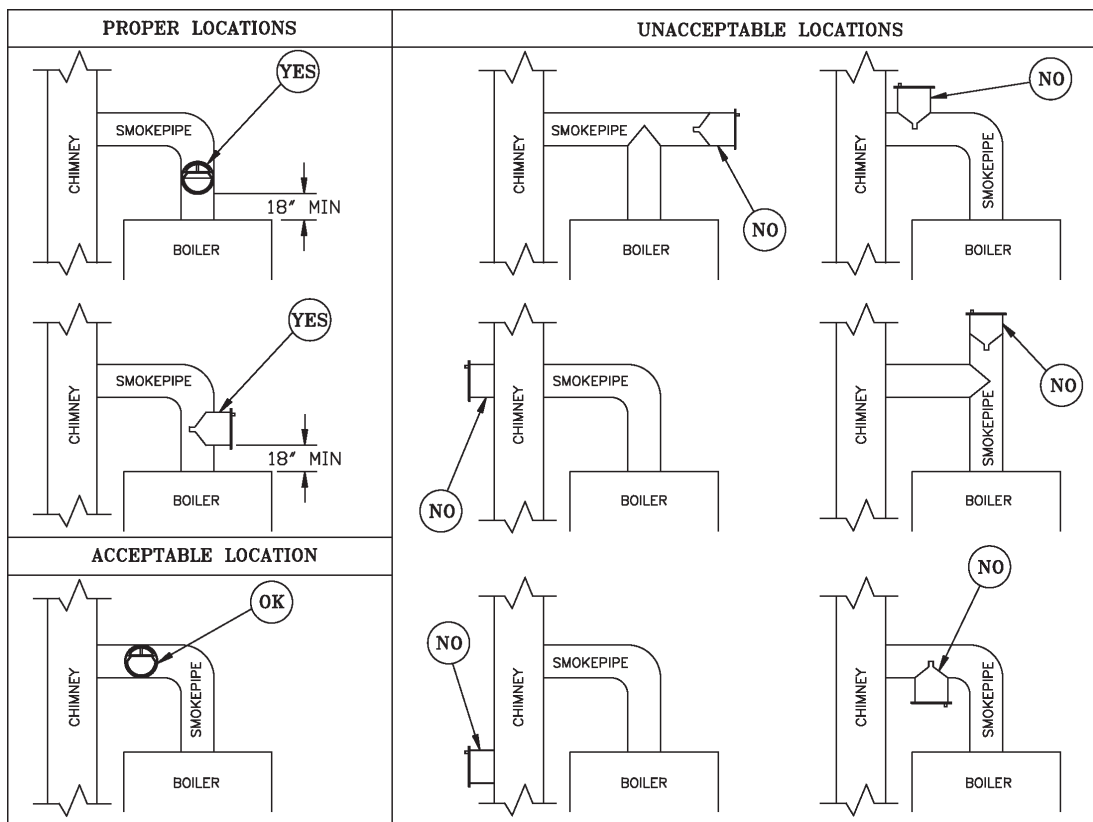

Figure 16: Proper and Improper Locations of Draft Regulator
1. Install a draft regulator (supplied by installer) following the instructions furnished with the regulator. See Figure 16 for draft regulator locations.
A. CONNECT Link SL™ or other Indirect Water Heater Piping as shown in Figures 16 and 17. Refer to Link SL™ or other Indirect Water Heater Instruction Manual for additional installation information.